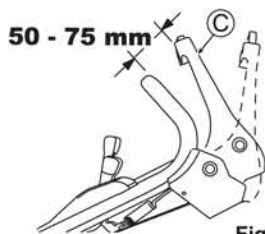

Fig. 26
Adjust so that the blade starts rotating when the distance between Blade lever (C) and the handle is 50 - 75 mm with the yellow button pressed as shown in Fig. 26.